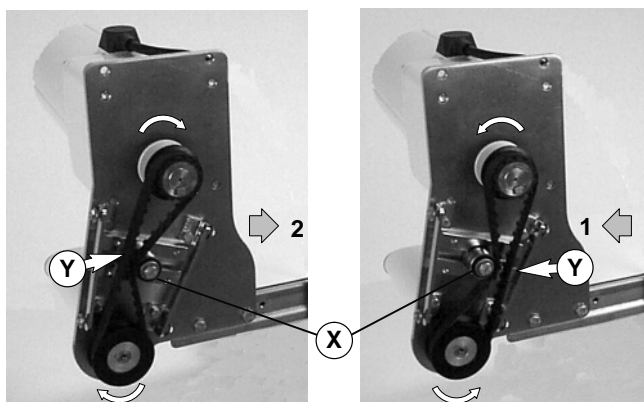

Figure 7
- Depending on conveyor belt travel (direction 1 or 2), locate timing belt tensioner (X of Figure 7) as shown. Tension timing belt to obtain 0.125" (3 mm) deflection for 1.0 lb (456 grams) of force at timing belt mid-point (Y). Tighten tensioner screw to 92 in-lb (10.4 Nm).